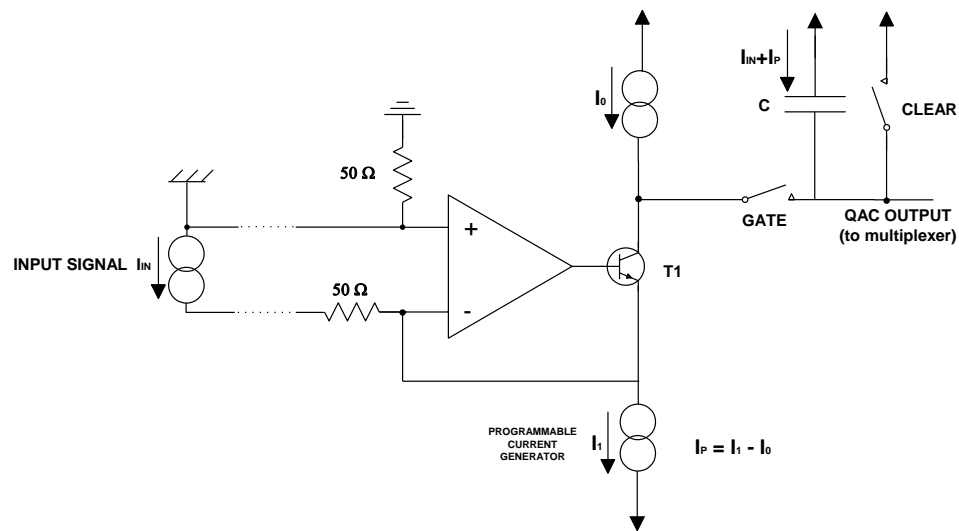

Fig. 2.4: QAC section (piggy back board rev. 2 and later)
* This feature is available for Mod. V792 N and for Mod. V792 from firmware release 5.1; for earlier V792 firmware releases the thresholds can be programmed only in 16 ADC counts steps (as illustrated in Fig. 2.4).